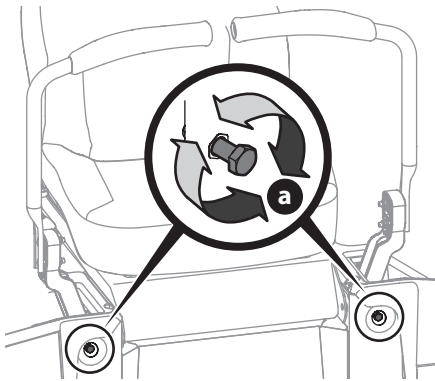

Fig. 40
- Locate the lapbar drive control lever stop adjustment bolts (a) on the front of the seat frame (Fig. 40).
- To decrease the forward speed, turn the lapbar drive control lever stop adjustment bolts (a) clockwise. To increase the forward speed, turn the lapbar drive control lever stop adjustment bolts (a) counter-clockwise. Turn the lapbar drive control lever stop adjustment bolts (a) in the necessary direction 1/4-turn at a time. After turning the lapbar drive control lever stop adjustment bolts (a), check the adjustment by driving the tractor (Fig. 40).